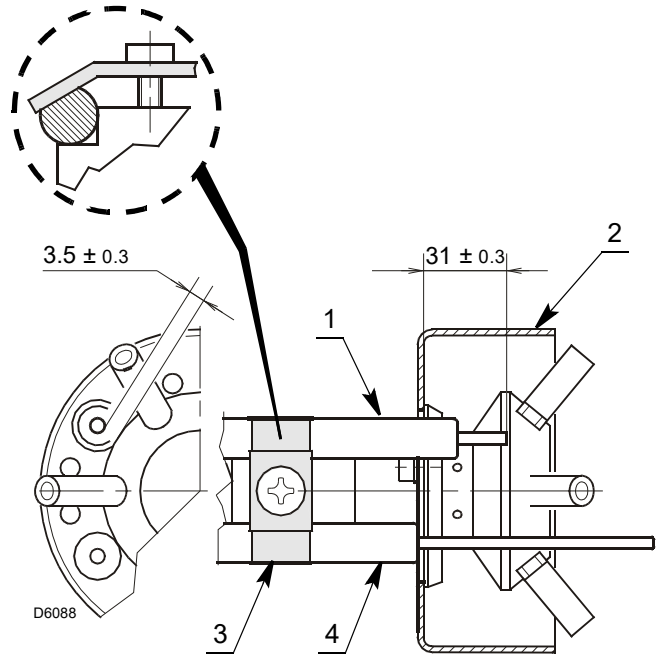

Fig. 16
- Make sure that the plate 3)(Fig. 16) is always inserted in the flattening of the electrode 1)(Fig. 16).
- Rest the probe insulator 4)(Fig. 16) against the air diffuser 2)(Fig. 16).